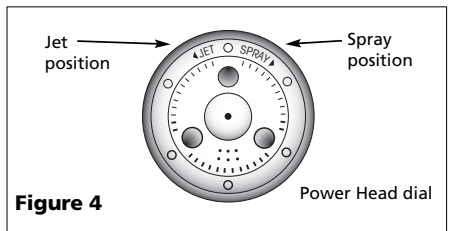

Figure 4
3. Turn dial on Power Head to desired setting – Jet or Spray (Figure 4).
2. To adjust the rotation speed of the attachment, turn the dial on the Power Head (Figure 4). Before turning this dial you must remove the attachment being used and turn the On/Off Valve to Off.